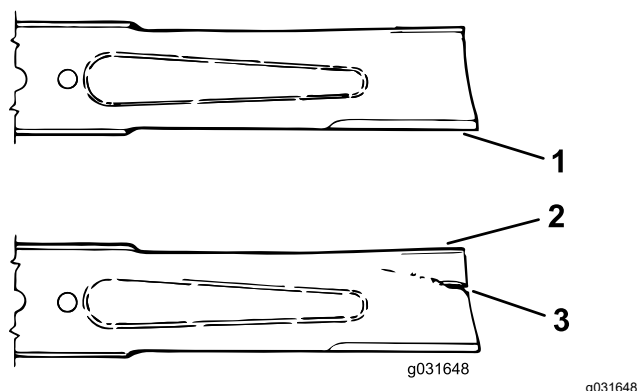

Figure 74
3. Examine the cutting ends of the blade carefully, especially where the flat and curved parts of the blade meet (Figure 74).